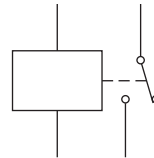

Fig. 12.6
- (ii) Fig. 12.6 shows an SPDT relay and the relay symbol. The relay has 5 connection points.